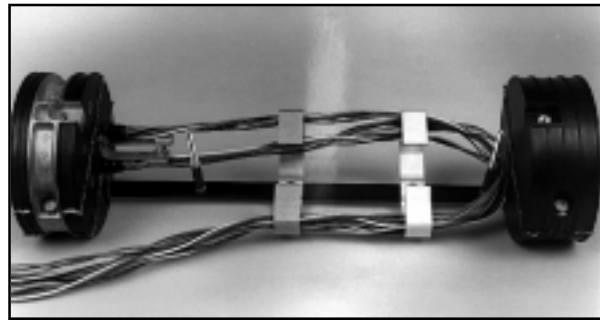

FIGURE 25 – ROUTING BUFFER TUBES WITHIN BUFFER TUBE STORAGE CLIPS (6.5" X 22" DLX SHOWN)
11.11 Route buffer tubes one turn through the buffer tube storage clip as shown in Figure 25.